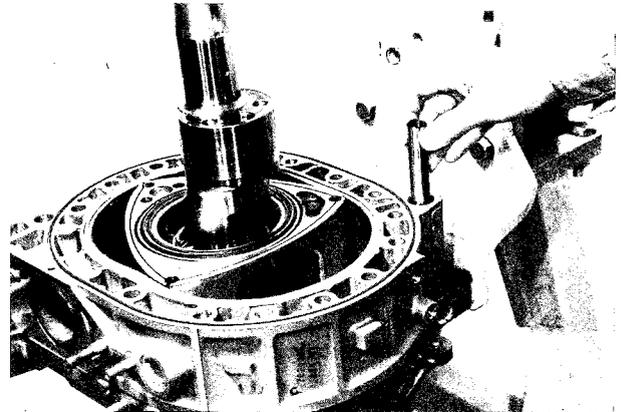

Fig. 1-64 Installing tubular dowel
4. Apply engine oil onto the tubular dowels and insert the tubular dowels through the front rotor housing holes into the front housing holes, as shown in Fig. 1-64.